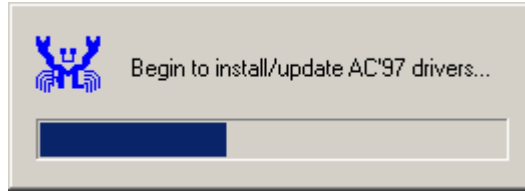

Figure 6-23: Audio Driver Installation Continues
Step 5: The audio driver installation continues (**Figure 6-23**).